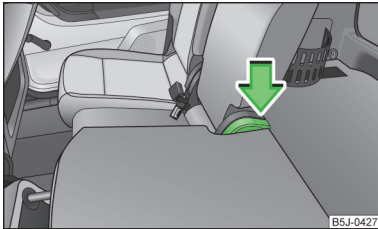

Fig. 61
- Press the lever » Fig. 61 and fold back the seat backrest. Check for yourself that the seat backrest is engaged by pulling on it.